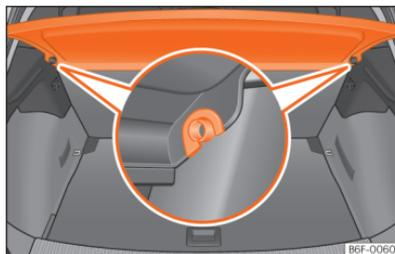

Fig. 144 In the boot: removing and installing the shelf.
- Remove the rear shelf from the side supports >>> Fig. 144 by pulling it upwards and then take it out.
- Insert the cover horizontally so that the “recess” fits onto the axis of the supports >>> Fig. 144 and press down until it engages.